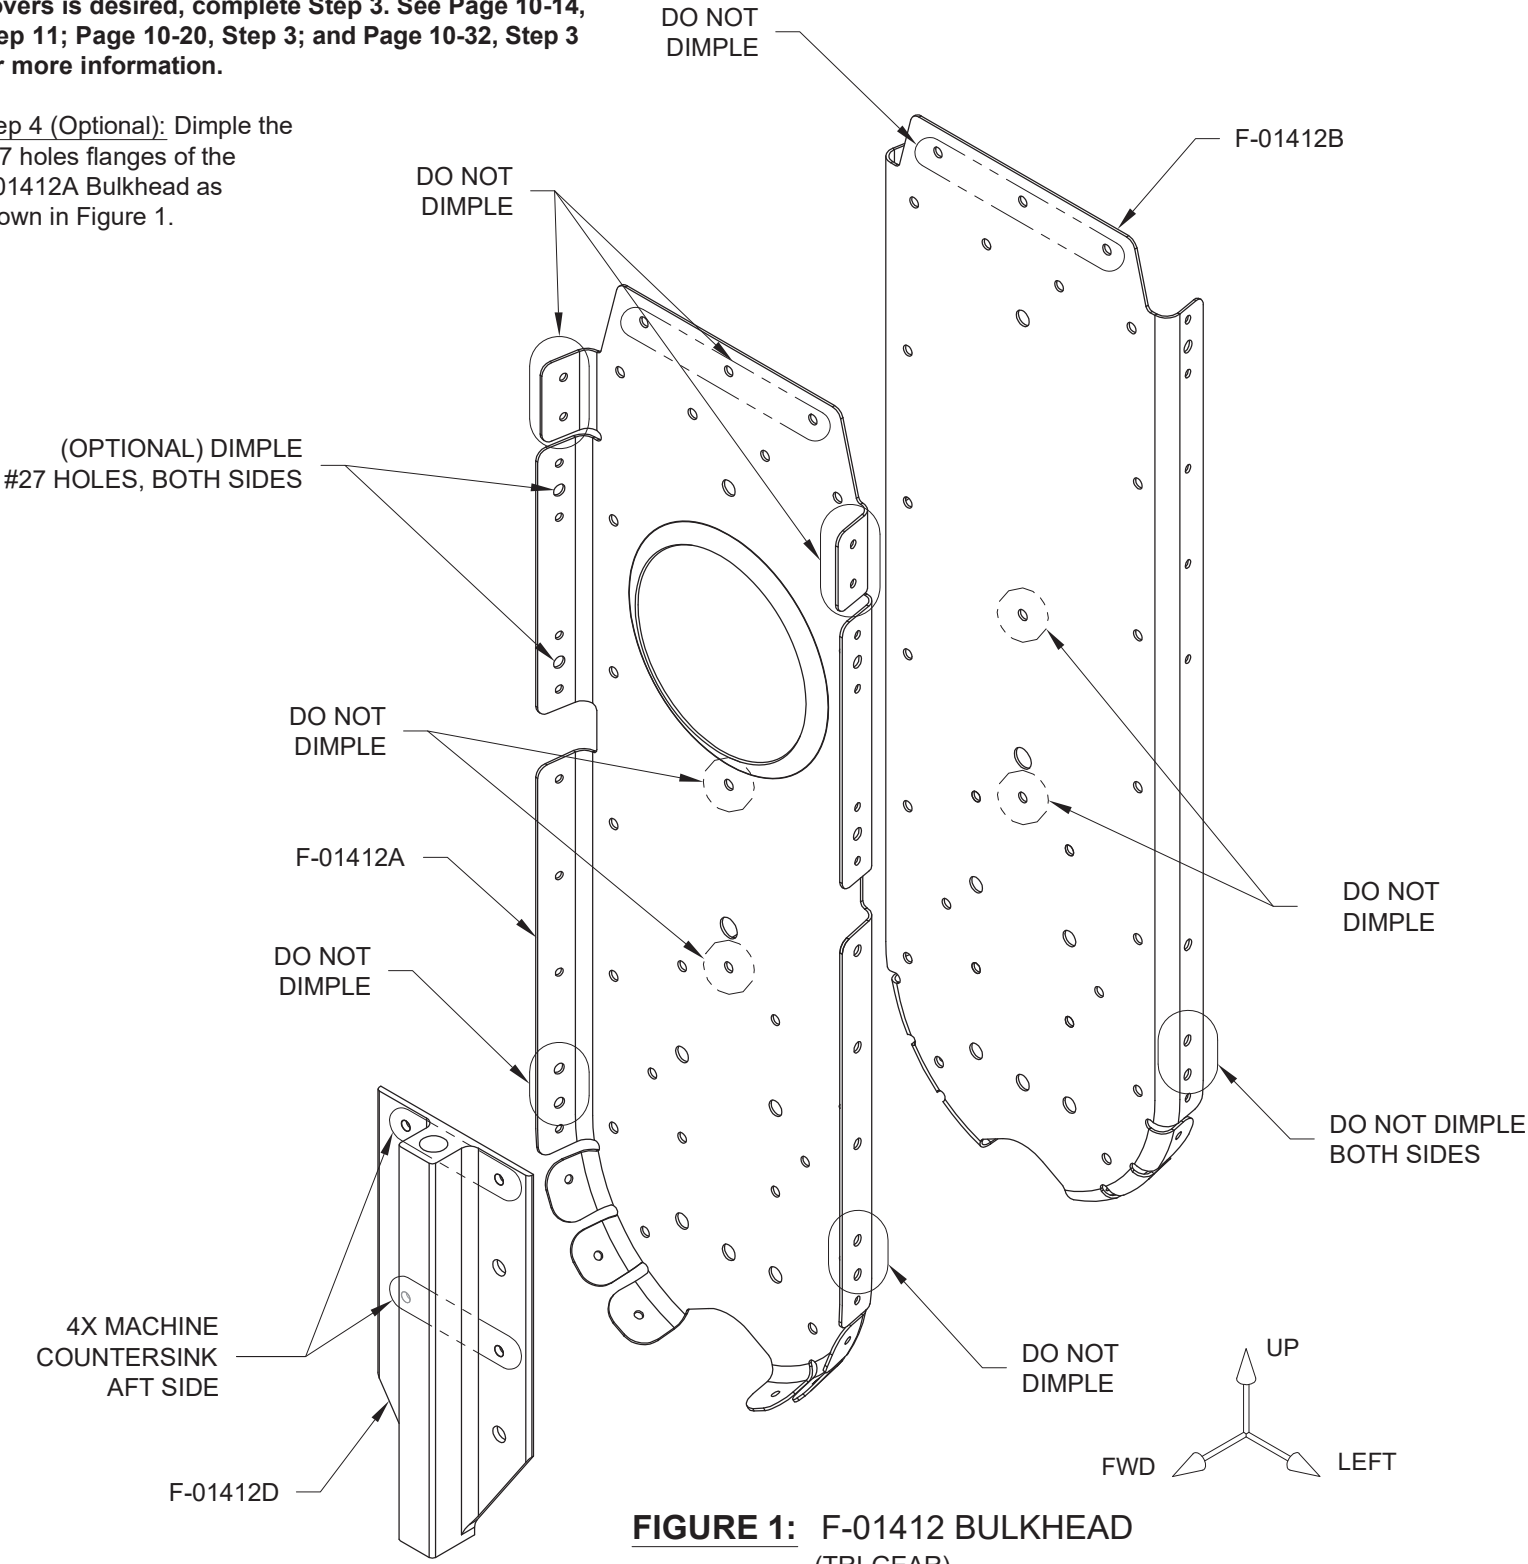

FIGURE 1: F-01412 BULKHEAD (TRI-GEAR)
Step 4 (Optional): Dimple the #27 holes flanges of the F-01412A Bulkhead as shown in Figure 1.